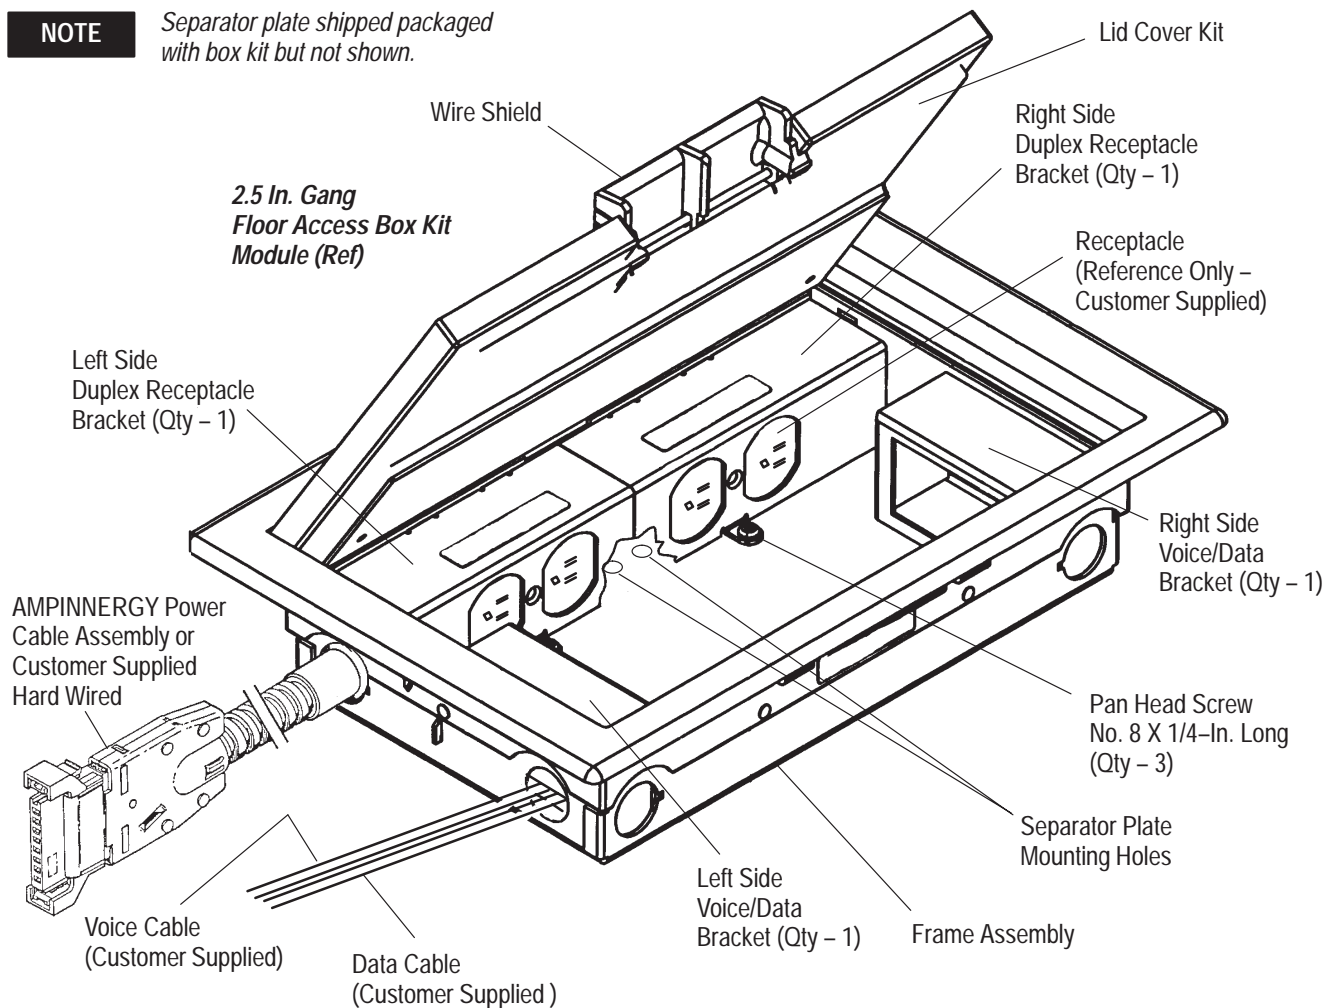

Figure 1
Basic terms and features of components are provided in Figure 1.
- Added receptacle callout in Figure 1